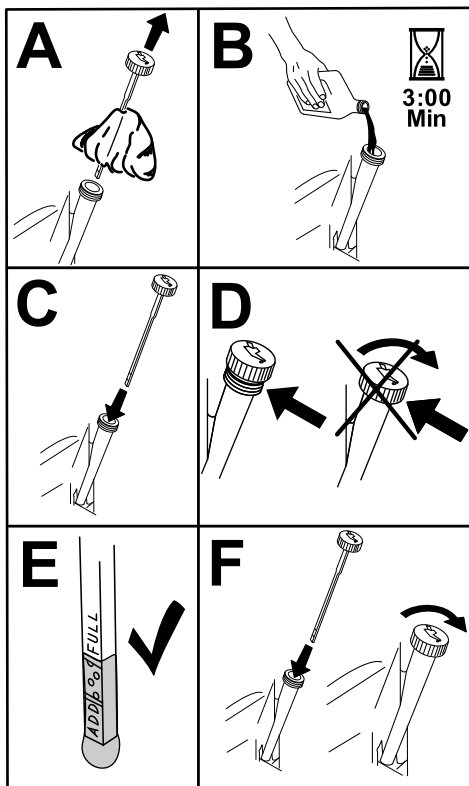

Figure 68
6. Slowly pour approximately 80% of the specified oil into the filler tube and slowly add the additional oil to bring it to the Full mark (Figure 68).